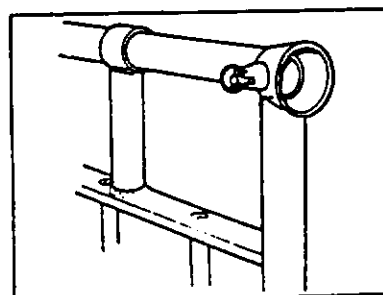

Fig.2
- b. Release lockbolt as in Fig.2.